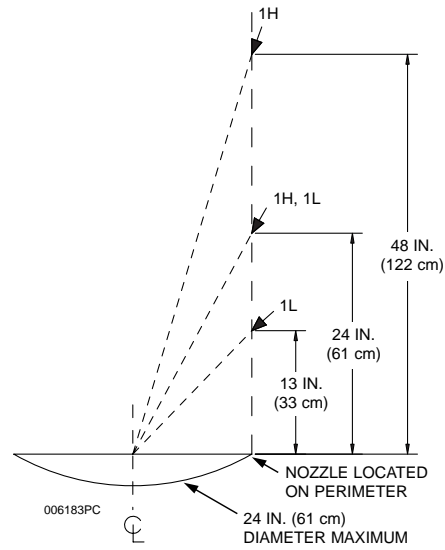

Figure 3-6
The 1H nozzle, Part No. 551029, is used for high proximity wok protection. This nozzle is a one (1) flow nozzle. The nozzle must be located **anywhere on the perimeter** of the appliance, 24 in. to 48 in. (61 to 122 cm) above the top edge of the wok and aimed at the center of the wok. See **Figure 3-6**.
The 1L nozzle, Part No. 551026, is used for low proximity wok protection. This nozzle is a one (1) flow nozzle. The nozzle must be located **anywhere on the perimeter** of the appliance, 13 in. to 24 in. (33 to 61 cm) above the top edge of the wok and aimed at the center of the wok. See **Figure 3-6**.